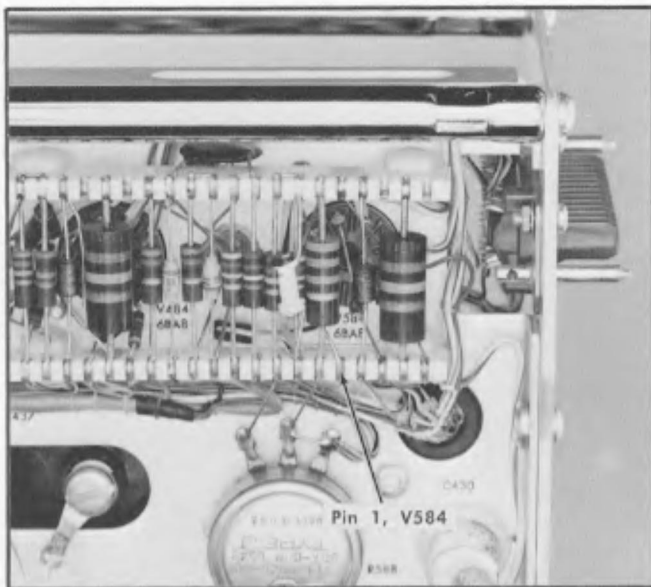

Fig. 6-8. Location of pin 1, V584.
- Connect the positive voltmeter lead to pin 1, V584. See Fig. 6-8.